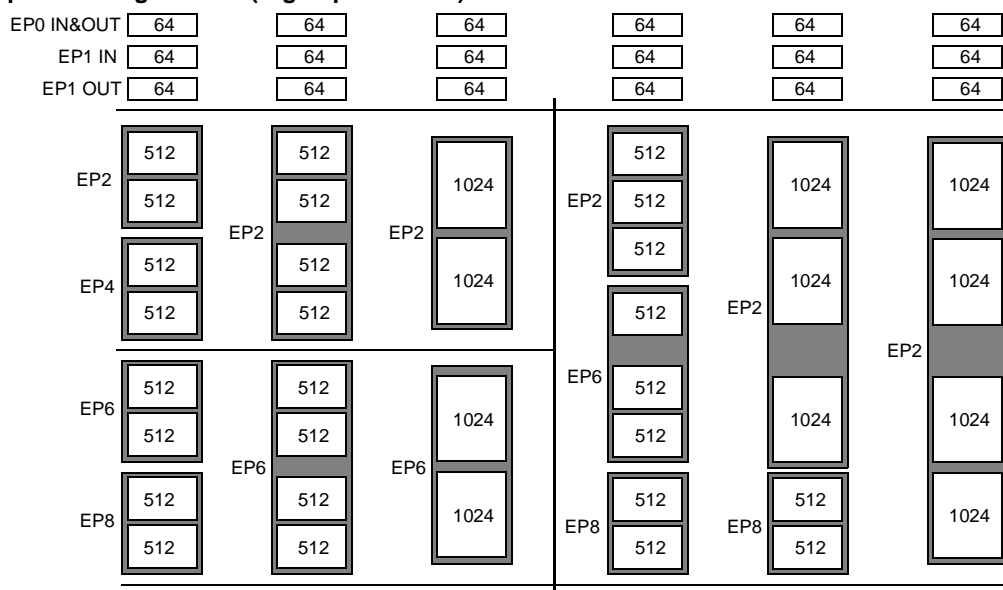

Figure 3-3. Endpoint Configuration
- EP2,4,6,8 Eight 512-byte buffers, bulk, interrupt, or isochronous. EP2 and 6 can be either double, triple, or quad buffered. For high-speed endpoint configuration options, see *Figure 3-3*.